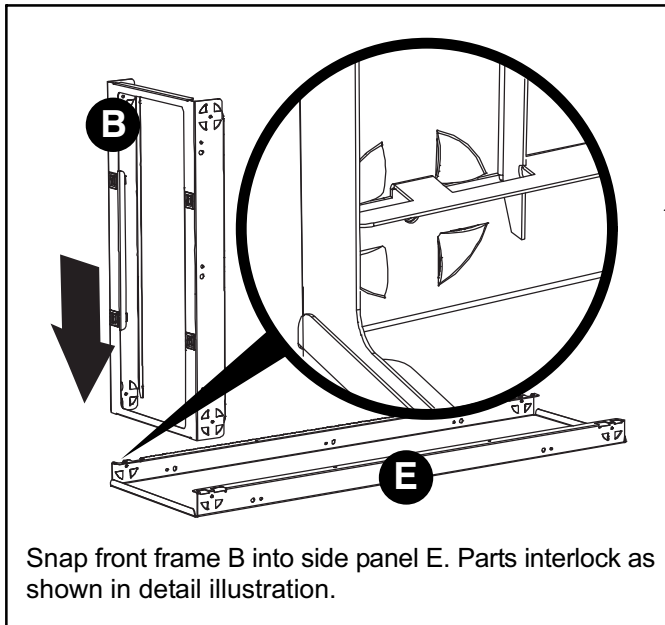

Figure 3. Assemble Front Frame (B) to Side Panel (E)
The SlimLine™ Cabinet sections are designed to lock together. Align the edges as shown in figure 3. It may be necessary to apply force to snap the tight pieces together.
2. Place side panel E on a firm surface. Align and insert front frame B into one end of side panel E (see figure 3). Firmly press down until each corner has snapped into place.